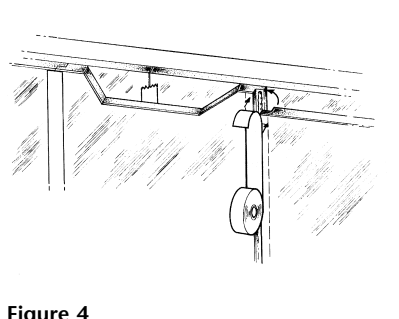

Figure 4
4. Center THERMAX white foil tape or equivalent over edge joints and apply tape (Figure 4).